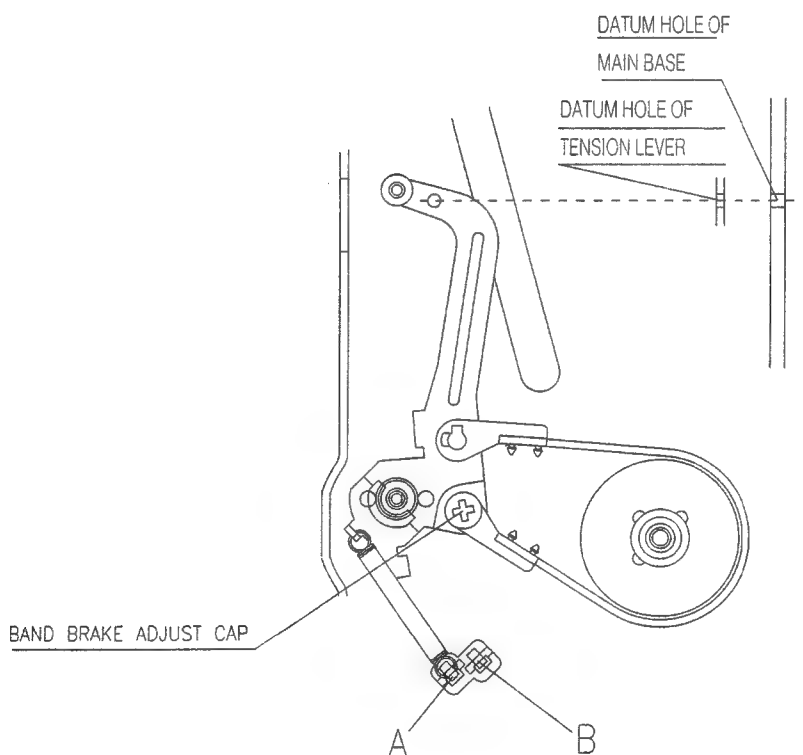

Fig.4-7 TENSION POLE POSITION ADJUSTMENT
- If the measuring result is not within this specification, refer to the below NOTE or repeat "4-4 TENSION POLE POSITION ADJUSTMENT". (Fig. 4-7)